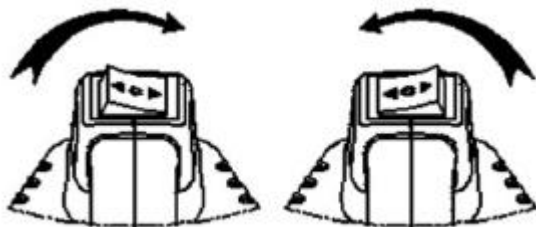

Figure 2
4. Switch to the correct direction for loosening or tightening (check Figure2).